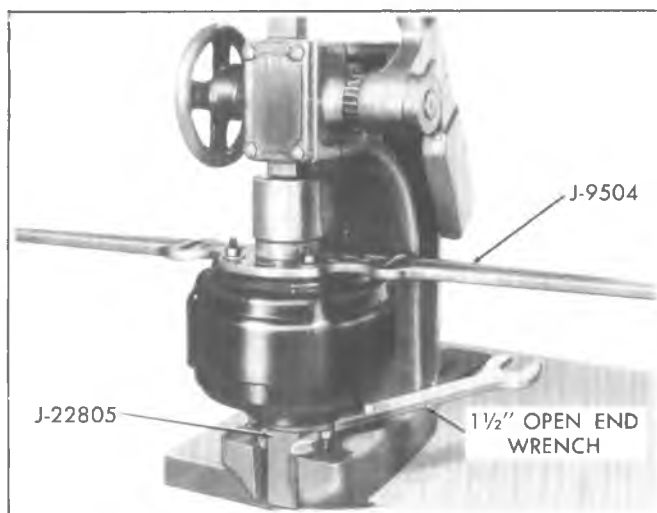

Fig. 5-4B—Holding and Separating Housings Using J-22805 and J-9504 in Arbor Press
12. Place power unit with Holding Fixture J-22805 in an arbor press with rear housing up and secure to plate of press by a suitable means of holding Tool J-22805 (fig. 5-4B). By using a 1-1/2" open end wrench on Tool J-22805 and allowing unit to turn against back of arbor press, press will hold unit from turning.
13. Place Spanner Wrench J-9504 over studs on rear shell (fig. 5-4B). Use three washers and nuts to attach wrench to housing. Use a suitable piece of pipe of approximately two inches I.D. and approximately three inches in length. Place over plastic diaphragm plate hub. Place a piece of flat stock steel over end of pipe and press rear housing down far enough to relieve tension of diaphragm rubber lip and spring.
12. Secure front housing and Holding Fixture J-22805 on arbor press plate by a suitable means (fig. 5-4B).